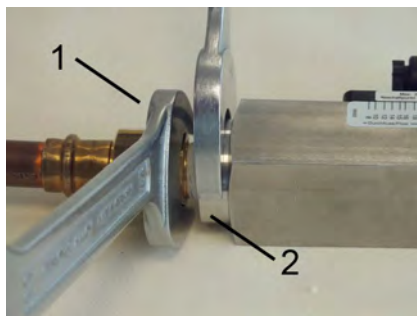

Fig. 12: Screw in the device
3. ➤ Keep turning in the adapter union (Fig. 12/1) while holding the process connection of the device locked (Fig. 12/2) until the connection is tight.